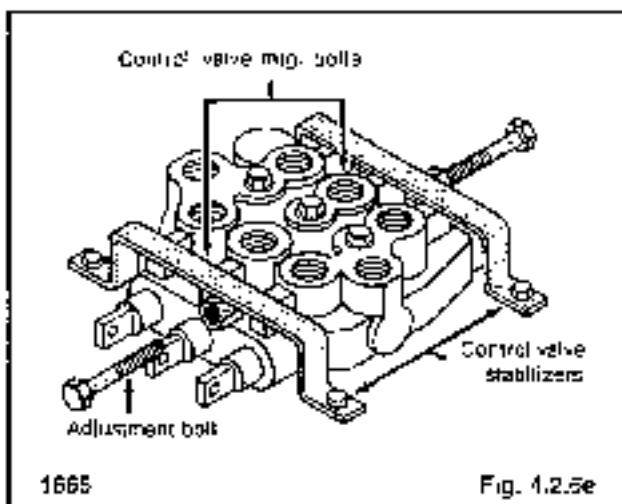

Fig. 4.2.6e
- 2 Install the front and rear control valve stabilizers (fig. 4.2.6e). Do not tighten the stabilizer adjustment bolts against the control valve housing.
- Back off the two stabilizer adjustment bolts (fig. 4.2.6e). Loosen the two control valve mounting bolts